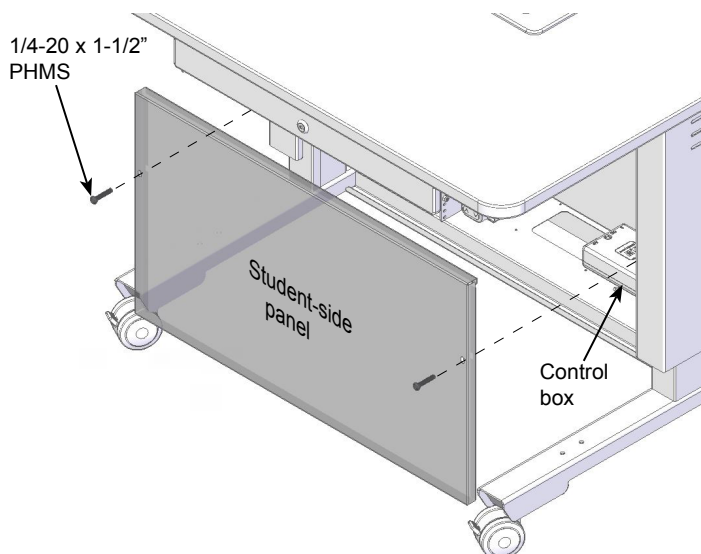

Figure 3B
1. Remove the student-side panel under the worksurface (eLift version). **Figure 3B.**